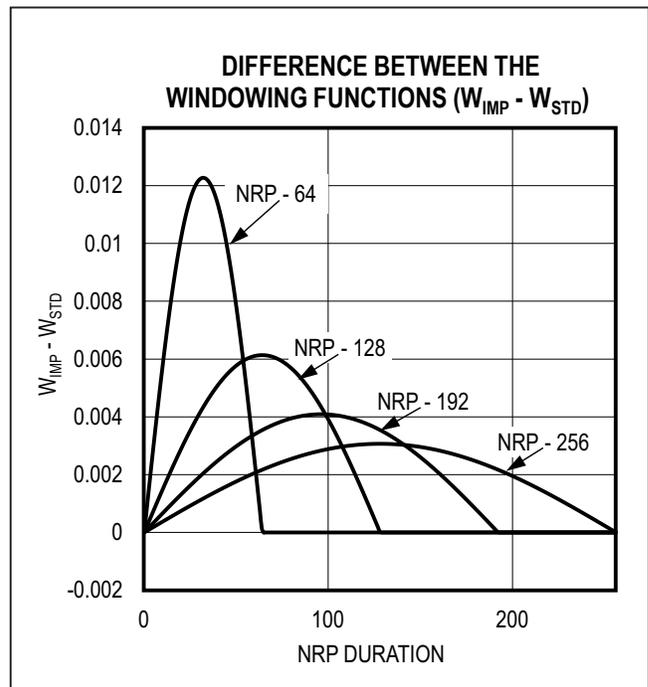

Figure 20. Effect Analysis of the Hardware Implementation ( $W_{IMP} - W_{STD}$ )
**Note:** The final “1/2” term of the formula which is shown circled in red is not implemented in the MAX5861 hardware-logic. Analysis has shown that the missing “1/2” term does not affect ACP numbers. If we compare the hardware-implemented windowing function to the windowing function as specified in the standard (Wstd) we see the results plotted in Figure 20.
Figure 20 indicates that the maximum difference between the  $W_{IMP}$  and  $W_{STD}$  windowing functions is 0.01227 for  $N_{RP} = 64$ . The difference error minimizes as the length of the  $N_{RP}$  increases. From a real-world perspective, the difference between  $W_{IMP}$  and  $W_{STD}$  may not be detected.